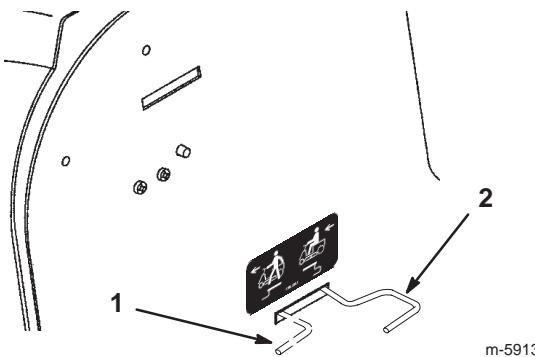

Figure 9
- Push the drive control rod in and slide it to the left to lock it in place (Fig. 9).